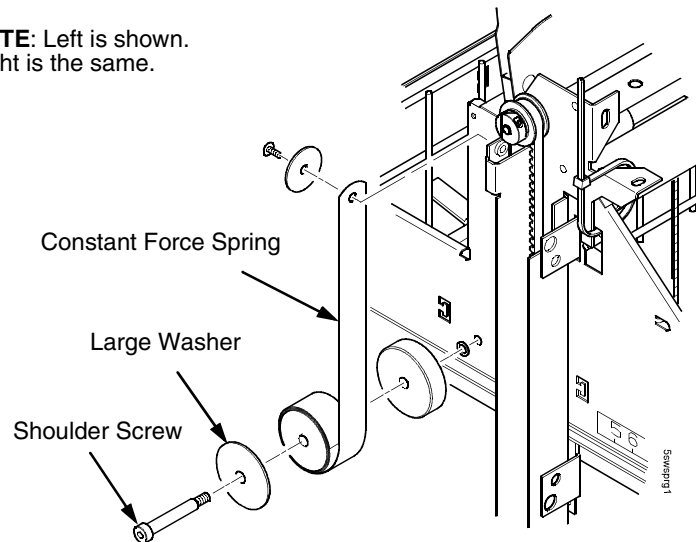

Figure 97. Releasing the Constant Force Spring
6. Remove the shoulder screw and large washer that secure the constant force spring to the vertical rail. (Figure 97.)